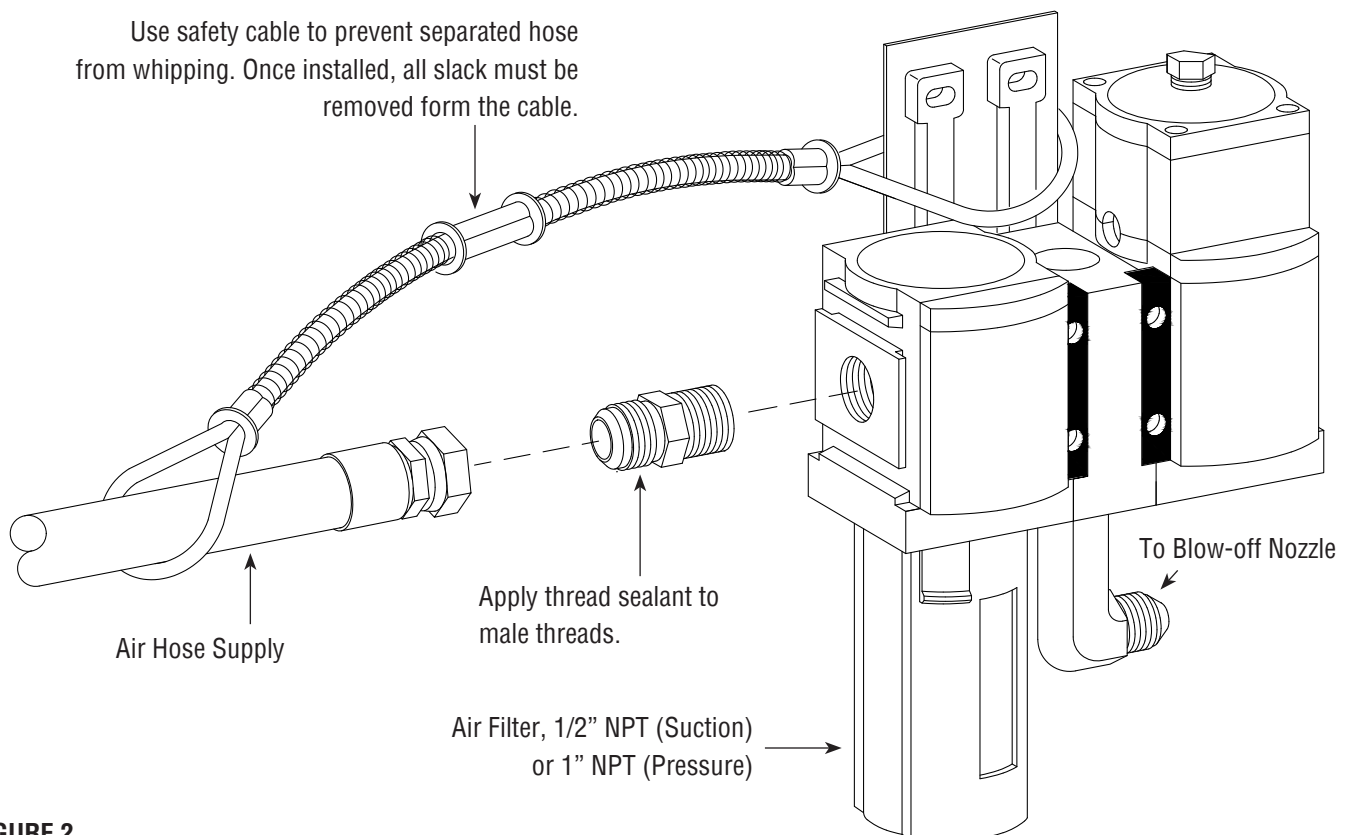

**FIGURE 2**
connected to the auxiliary-air port on the reclaim plumbing, as shown in **Figure 2**.
**2.3.1** | Apply thread sealant and install a compatible fitting to the 1/2-NPT air filter under the hopper (**Figure 2**).
**2.4.1** | Apply thread sealant to the male threads of an air fitting that is compatible with the air-supply hose fitting, and install it onto the 1"-NPT air filter located at the blast machine inlet, as shown in **Figure 2**. Note that the style of connection shown in **Figure 2** is for reference only.